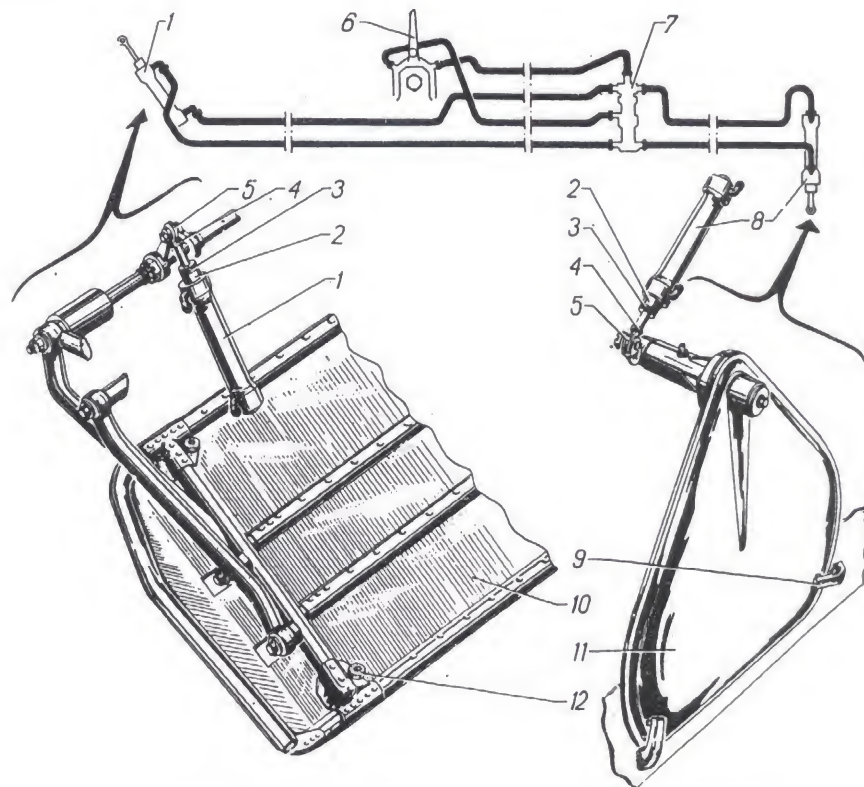
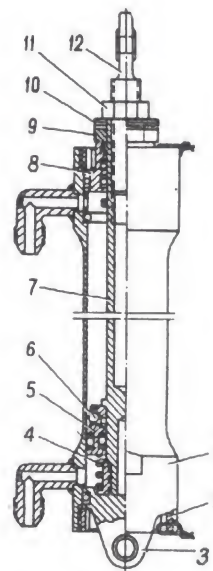

FIG. 75. SPLASH PANEL AND WATER-JET PROPELLER SHUTTER HYDRAULIC CONTROL
FIG. 76. WATER-JET PROPELLER SHUTTER CONTROL CYLINDER
Splash panel 10 (Fig. 75) and water-jet propeller shutter 11 are lifted and lowered by hydraulic cylinders 1 and 8 which are similar in design. When the splash panel is lowered and the water-jet propeller shutter is closed, rods 7 (Fig. 76) of the cylinders are fully extended, fixed in position and retained by ball locks 6.
When in the lowered position, the splash panel is pressed to the hull front plate with rubber buffers 12 (see Fig. 75), and water-jet propeller shutter 11 thrusts against stop 9. Pressing force is adjusted by making use of bolts 5 of the rods of cylinders 1 and 8. The force is increased by screwing off the bolt and decreased by screwing it in. The pressing force should be adjusted so as to avoid warping of the control components.
1. Unscrew lock nut 11 (Fig. 76) of hydraulic cylinder rod bolt 12.